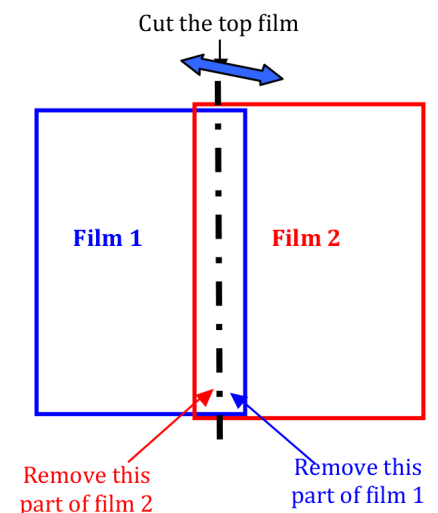

Figure 03
- › If the covering of the surface requires the installation of several successive widths, make the joints between the widths in the following manner (FIG. 03): Install the second width (film 2) with an overlap of approx. 1 cm (½ in) over the next width (film 1). Using a box cutter, cut the overlapping film (film 2) along the edge of the overlapped film underneath (film 1). Remove the surplus cut of film 2.